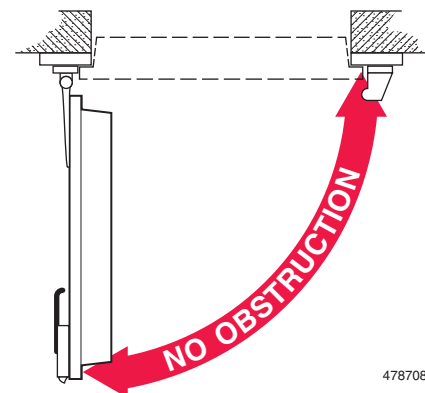

Figure 2
4. Dry-fit the door frame to check for proper fit. Verify the Door Leaf will open freely (to *at least 90°*) at the floor and ceiling. Make any corrections to the site as necessary. See *Figure 2*.